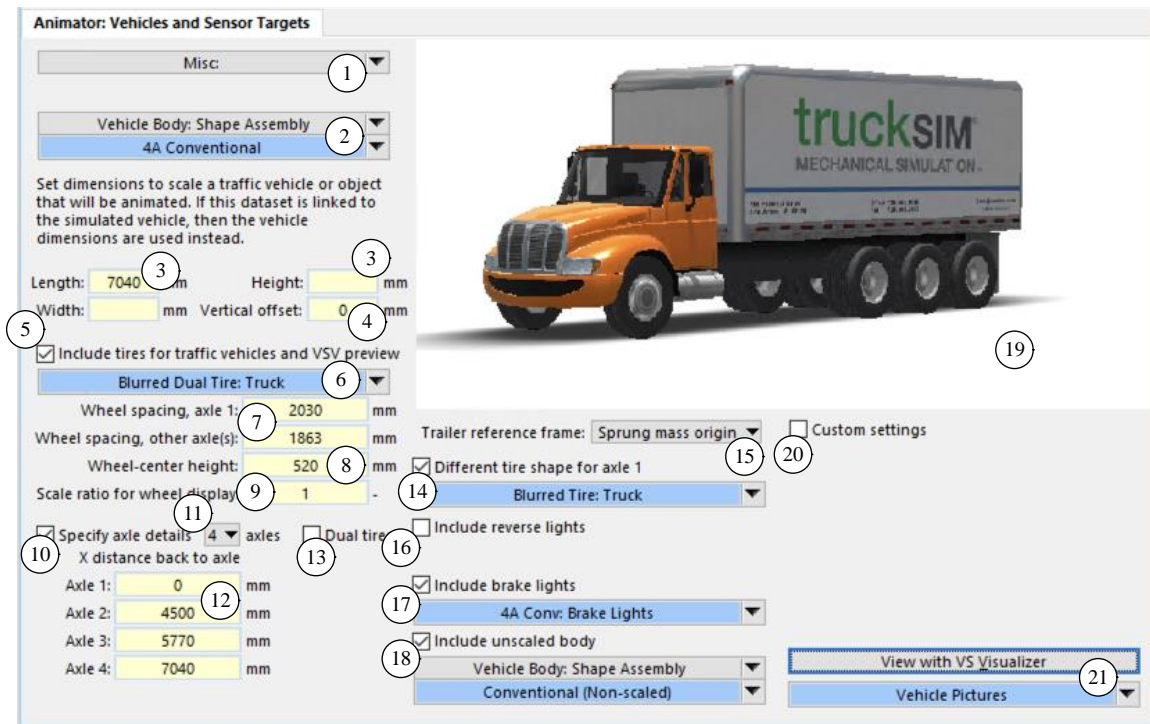

Figure 2. TruckSim example with four axles, dual tires, and an unscaled body.
- ⑤ Checkbox to **Include tires**. Check this box to display the other controls in this subsection. This information is intended for assembling animation information need to represent a vehicle for a moving object or to generate a 2D image to illustrate a vehicle dataset.
- ⑥ Link to an animator linked shape file to show a tire or wheel. The shape is repeated two or four times per axle and located according to the dimensions specified below. If the optional shape for axle 1 is used ⑭ (Figure 2), then this shape is used for axles 2 and higher.
- ⑦ Lateral spacing of wheels. These two values are used to replace the track width that would be provided for a simulated vehicle from the suspension data. The simple wheeled vehicle assembled for the animator has one value for axle 1, and other values used for all other axles.
- ⑧ Wheel center height. This vertical coordinate positions the wheel shapes ⑥ and ⑭ vertically. It is a replacement for the loaded radius that would be provided by tire data in a full vehicle model.
- ⑨ Scale ratio for wheel display. This ratio is used to resize the tire/wheel shapes ⑥ and ⑭.
- ⑩ **Specify axle details** checkbox. If this box is not checked, then the vehicle is assumed to have two axles, with the front axle being located at zero longitudinal position, and the rear axle being located back by the length dimension ③.
Check this box to display more details (Figure 2). This capability is provided for trailers, vehicles with more than two axles, and vehicles with mixtures of single and dual-tire assemblies.
- ⑬ Checkbox used to show dual spacings for each axle. This option is not visible unless the checkbox to specify axle locations is checked ⑩. Dual tires can be shown in the animation either by specifying a single tire shape and repeating it, or by specifying a shape that shows dual tires. In TruckSim, most example datasets for this screen use an animator shape named **Blurred Dual Tire**, in which case this box is not checked (Figure 2).